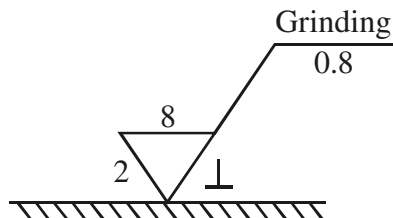

Fig. 1
- (a) State the meaning of symbol shown in Fig. 1.